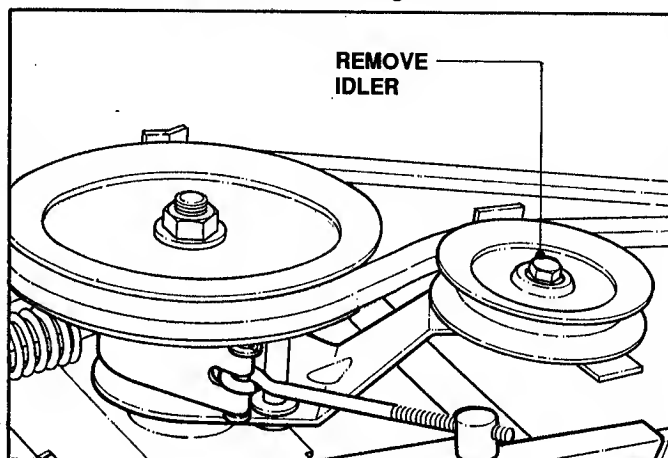

FIGURE 4.22
1. Remove idler. See Figure 4.22.